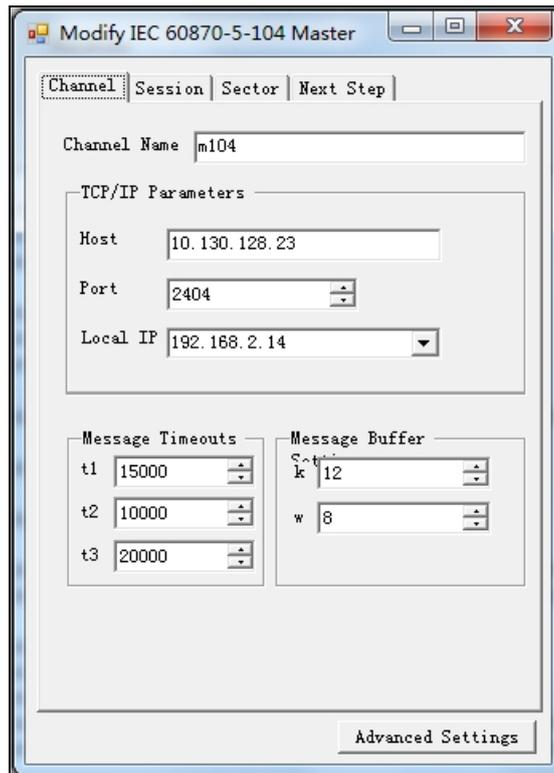

Figure 2-25 104 master station setting 1
1) Set **Host** to the private network IP address obtained by DTU, enter the fixed value 2404 into **Port**, and set **Local IP** to the IP address of the PC running the 104 software, as shown in Figure 2-25.